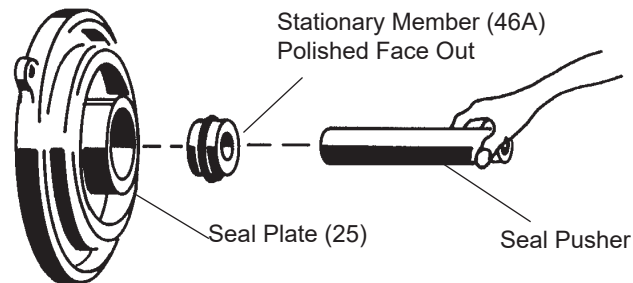

FIGURE 6
Position unit upright, using blocks to avoid resting unit on shaft. Unscrew cord hex bolts (6) and remove compression flange (10a) and power cord (10). Remove snap ring (8) with a flat head screwdriver. Pull the terminal block (27) out of the motor housing (2) using a T-bolt or pair of pliers and a .25-20 screw in the threads of the terminal block (27). Be sure to leave slack on the motor leads connected underneath. Use needle nose pliers to pull each female connector off of the pins on the underside of the terminal block (27) (see Figure 6). The unit voltage should be noted. Remove socket head cap screws (39). Vertically lift upper pump assembly from seal plate (25) by lifting handle (7). Inspect square rings (42) for damage or cuts.
**Motor** - Remove the motor bolts and lift motor stator from motor rotor and seal plate (25). Unscrew conduit bushing (14) from seal plate (25) and lift motor rotor, shaft, bearing (42), rotating portion of seal (46), washer (9) and conduit bushing (14) from seal plate (25).
**Bearing** - When replacing bearing, be careful not to damage the rotor or shaft threads. Clean the shaft thoroughly. Slide conduit bushing (14) and washer (9) over motor shaft. Insert retaining ring (30) into groove on shaft. Apply adhesive compound to the shaft and press bearing (47) on the motor shaft, position squarely onto shaft applying force to the inner race of the bearing only, until bearing seats against retaining ring (30).
**Seal** - Clean and oil seal cavity in seal plate (25). Press stationary member (46a) firmly into seal plate (25), using a seal pusher, nothing but the seal pusher is to come in contact with seal face (See Figure 6). Make sure the stationary member is in straight.